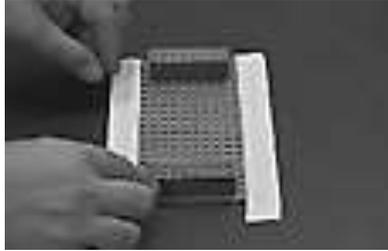

Figure 4-14: Operator must change the checking fixture.
STEP 1: When a white plane arrives into the queue area of workstation 3, the operator must change the checking fixture – which checks length (see Figure 4-14).